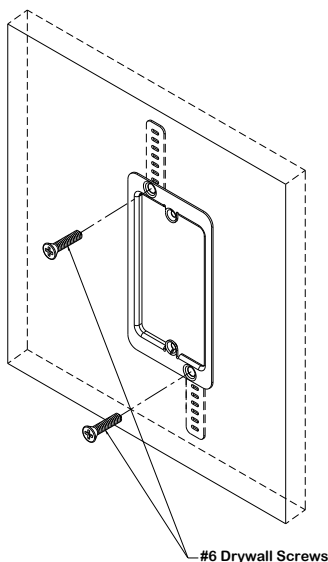

Figure 4
2. After drywall has been cut, install the metal cut-in ring wall mounting plate. Bend the two mounting tabs behind the drywall and secure the mounting plate with the supplied drywall screws (See Figure 4). Align the mounting tab slots while tightening the screws.